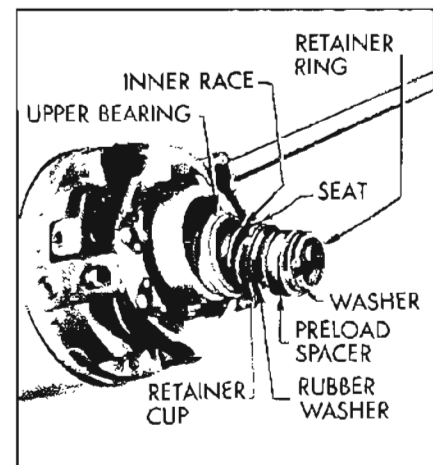

Figure 8-82—Removing Bearing Preload Parts
7. Remove washer, bearing preload spacer, rubber washer, retainer cup, seat, bearing inner race and upper bearing. See Figure 8-82. Discard preload spacer.
11. Place the upper steering shaft bearing, bearing inner race, seat, retainer cup (lip side up), rubber washer, new bearing preload spacer, washer and retainer ring on upper steering shaft. See Figure 8-82.